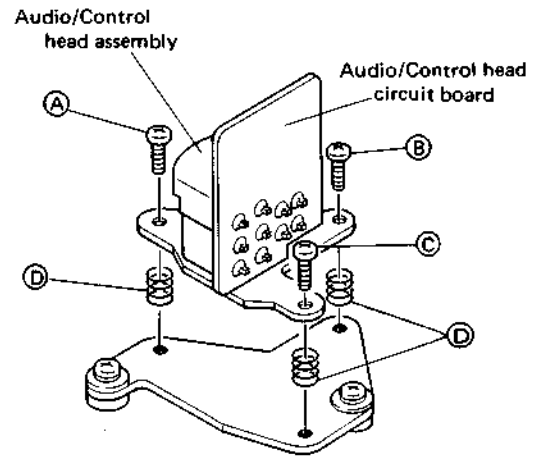

Fig. 4-15 A/C head replacement
1. Take out three screws (A), (B) and (C) to remove the A/C head assembly. Use care regarding the coil springs (D) as shown in Fig. 4-15.
2. Unsolder the ten terminals coming from A/C head assembly and remove the A/C head circuit board as shown in Fig. 4-15.